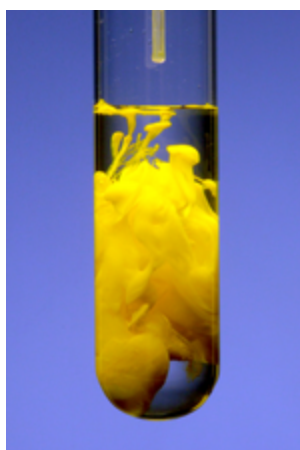

Figure 1.19: A mixture of aqueous potassium nitrate, liquid water, and solid lead iodide
8. Figure 1.19 shows a mixture containing potassium nitrate dissolved in water and a suspension of lead iodide, the yellow solid.